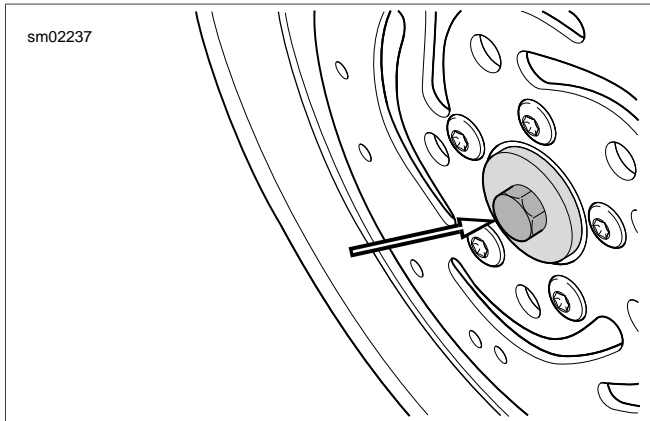

Figure 2-17. Installation Tool Support Plate
- See Figure 2-17. Place threaded rod through support plate. Insert assembly through wheel.